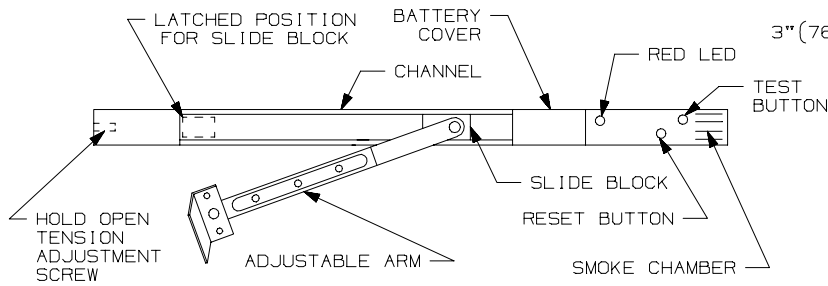

FIGURE 1
1. REMOVE BATTERY COMPARTMENT COVER (SEE FIG. 1) AND INSTALL ALKALINE 9-VOLT BATTERY. THE RED LED SHOULD NOW FLASH ONCE EVERY SECOND AND THE MOTOR WILL RUN BRIEFLY.
12. MOVE THE SLIDE BLOCK TO THE LATCHED POSITION (SEE FIG 1)